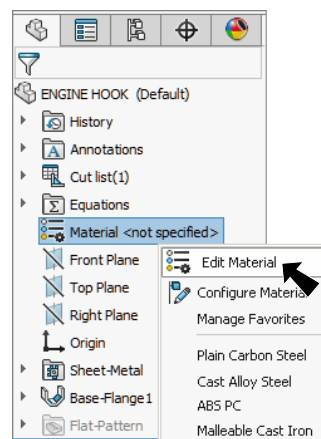

Fig. 9
Step 1. **Right click Material**  in the Feature Manager and click **Edit Material**, Fig. 9.